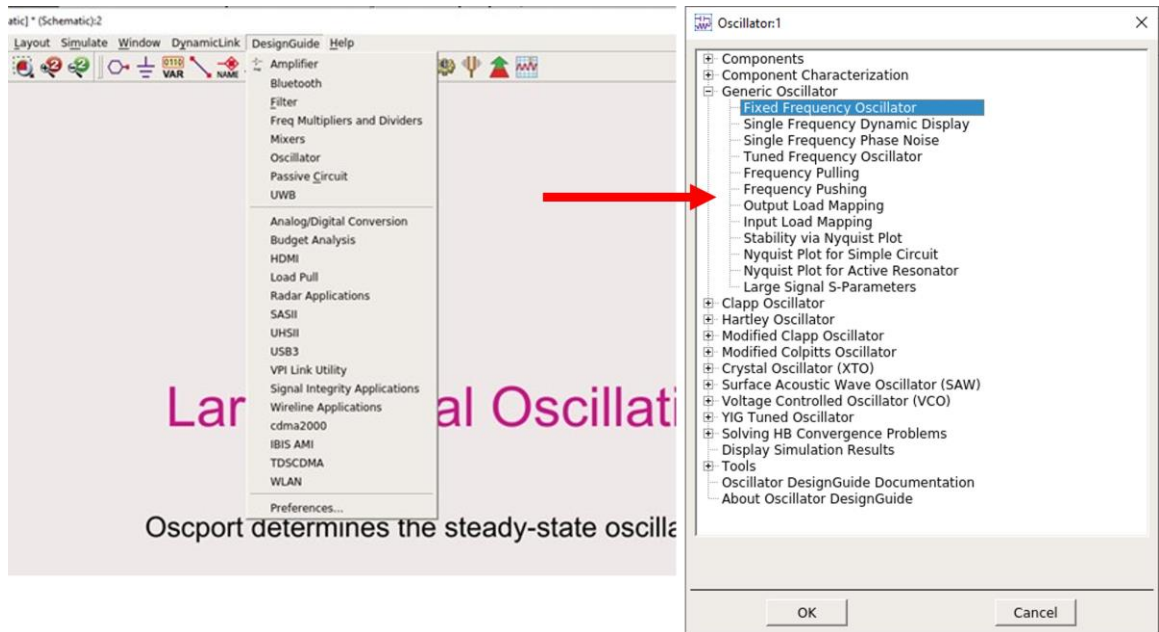
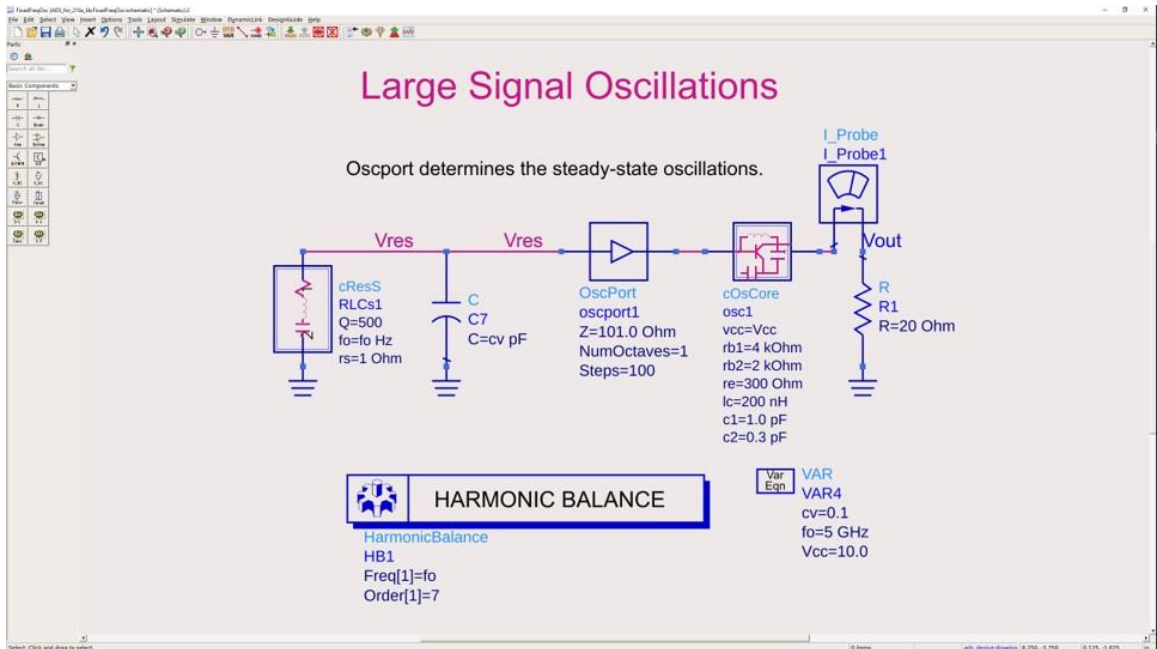

Figure 6: Accessing the oscillator design guide library in ADS
Figure 7: ADS "fixed frequency oscillator" test bench.
3) Optional: Using the ADC oscillator design guide (Figure 6, Figure 7), simulate the oscillator using the "fixed frequency oscillator" test bench. This test bench separates the main LC resonator (CResS and C7 in the ADS schematic; TL_{C2} and TL_{C1} in your circuit), the output load (R1 in the ADS schematic; Z_0 in your circuit), and the remainder of the circuit. It will take a little thought on how to map your design into this ADS file.